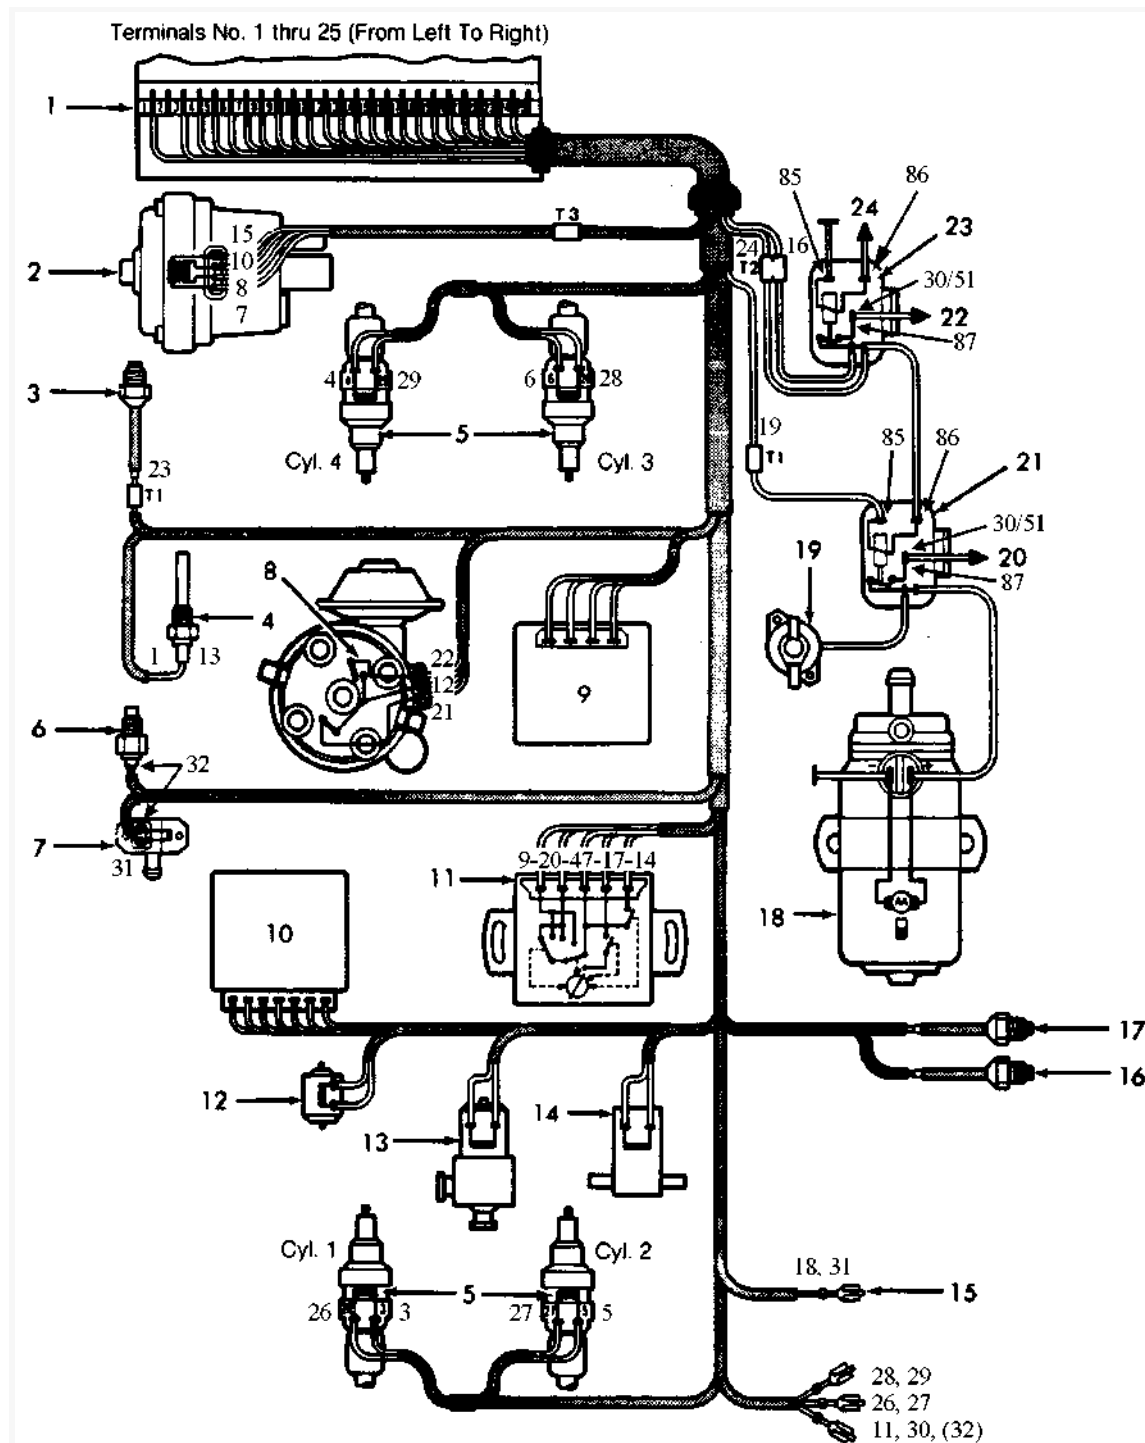

Fig. 10: Typical 4-Cyl. Bosch D-Jetronic Fuel Injection Wiring Diagram
See Fig. 10 or 11. If 11-12.5 volts are present, proceed to step 4). If no voltage is obtained, proceed to next step. If voltage is less than 11 volts, proceed to step 3).
1. Attach one ohmmeter lead to terminal No. 12 on trigger connector. Alternately attach second lead to terminals No. 13, 14, 21 and 22 on trigger connector and note reading of each, while cranking engine without starting. See Fig. 10 or 11.